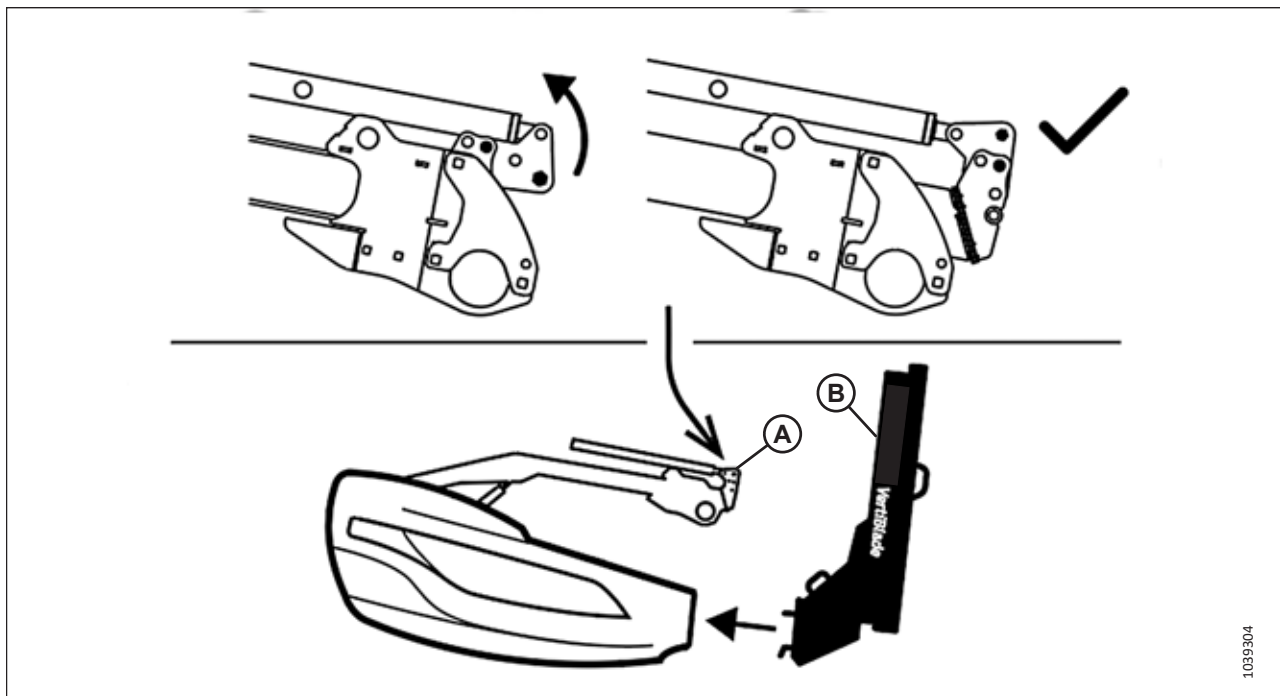

Figure 4.363: Reel Fore/Aft Cylinder Position for Vertical Knives
To prevent contact between reel arm components (A) and vertical knife assemblies (B), retract the reel's fore-aft cylinders as shown in Figure 4.363, page 733 before installing the vertical knives. For instructions, refer to *Repositioning Fore-Aft Cylinders*, page 238.